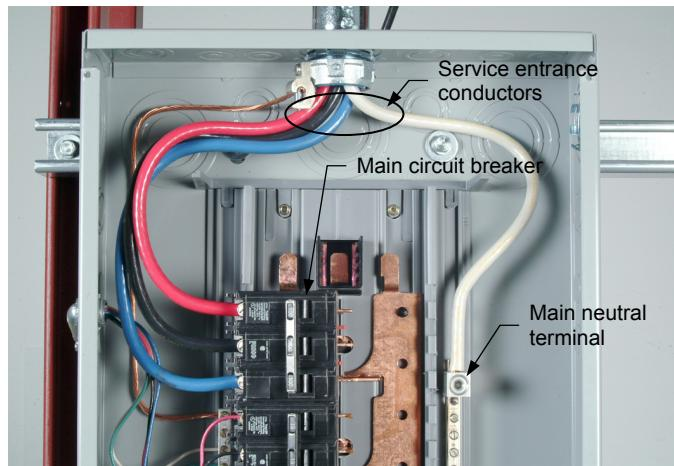

Figure 17. Connections of the service-entrance conductors in the MDP.
5. Connect the three service-entrance conductors L1 (red), L2 (black) and L3 (blue) to the MCB terminals, and the neutral (white) conductor to the main neutral terminal as indicated in the electrical power distribution interconnection diagram, Part I and Figure 17.
- The service-entrance conductors with red, black, and blue insulations (ungrounded conductors) are connected to the main circuit breaker, as indicated in the electrical power distribution interconnection diagram, Part I. See Figure 17.
- The service-entrance conductor with white insulation (neutral conductor) is connected to the main neutral terminal of the MDP neutral/ground bus. See Figure 17.